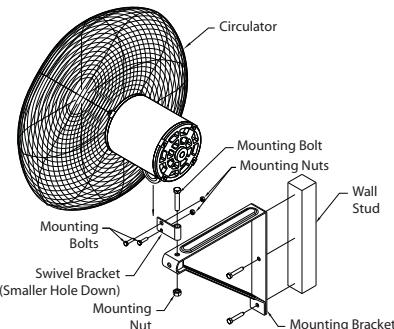
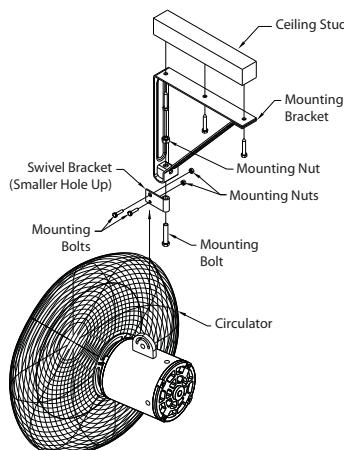

Figure 4 — Wall Mount Installation
Figure 5 — Ceiling Mount Installation
1. Assemble the wall, post, or ceiling bracket to the swivel brackets as shown in Figure 4 and Figure 5. The bracket has two holes; be sure smaller hole is as specified.